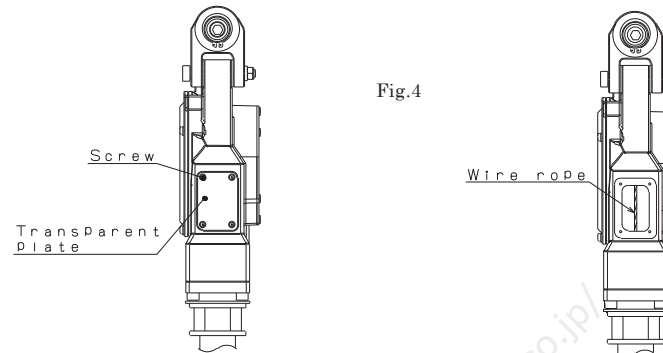

Fig.4
- Loosen set Screws , then remove the Transparent plate . Check the wire rope from inspection window (See Fig.4).